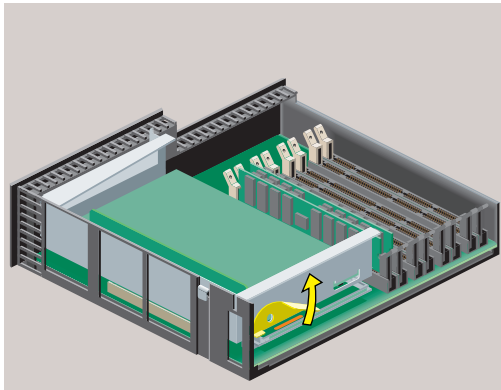

Figure 2-13 Releasing the *PCI* Tray
2. Release the *PCI* tray by pushing up the lever on the side (Figure 2-13). The tray pops up.